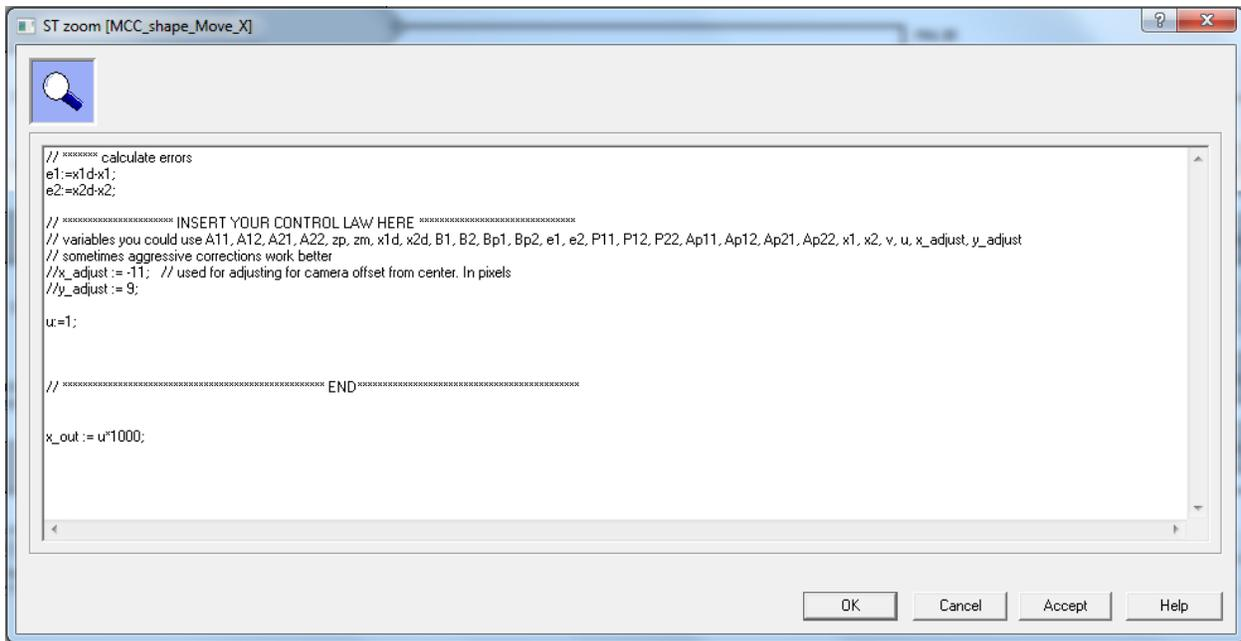

Figure 5: Code in block to enter control law
6. Figure 5 above shows the opened block of code